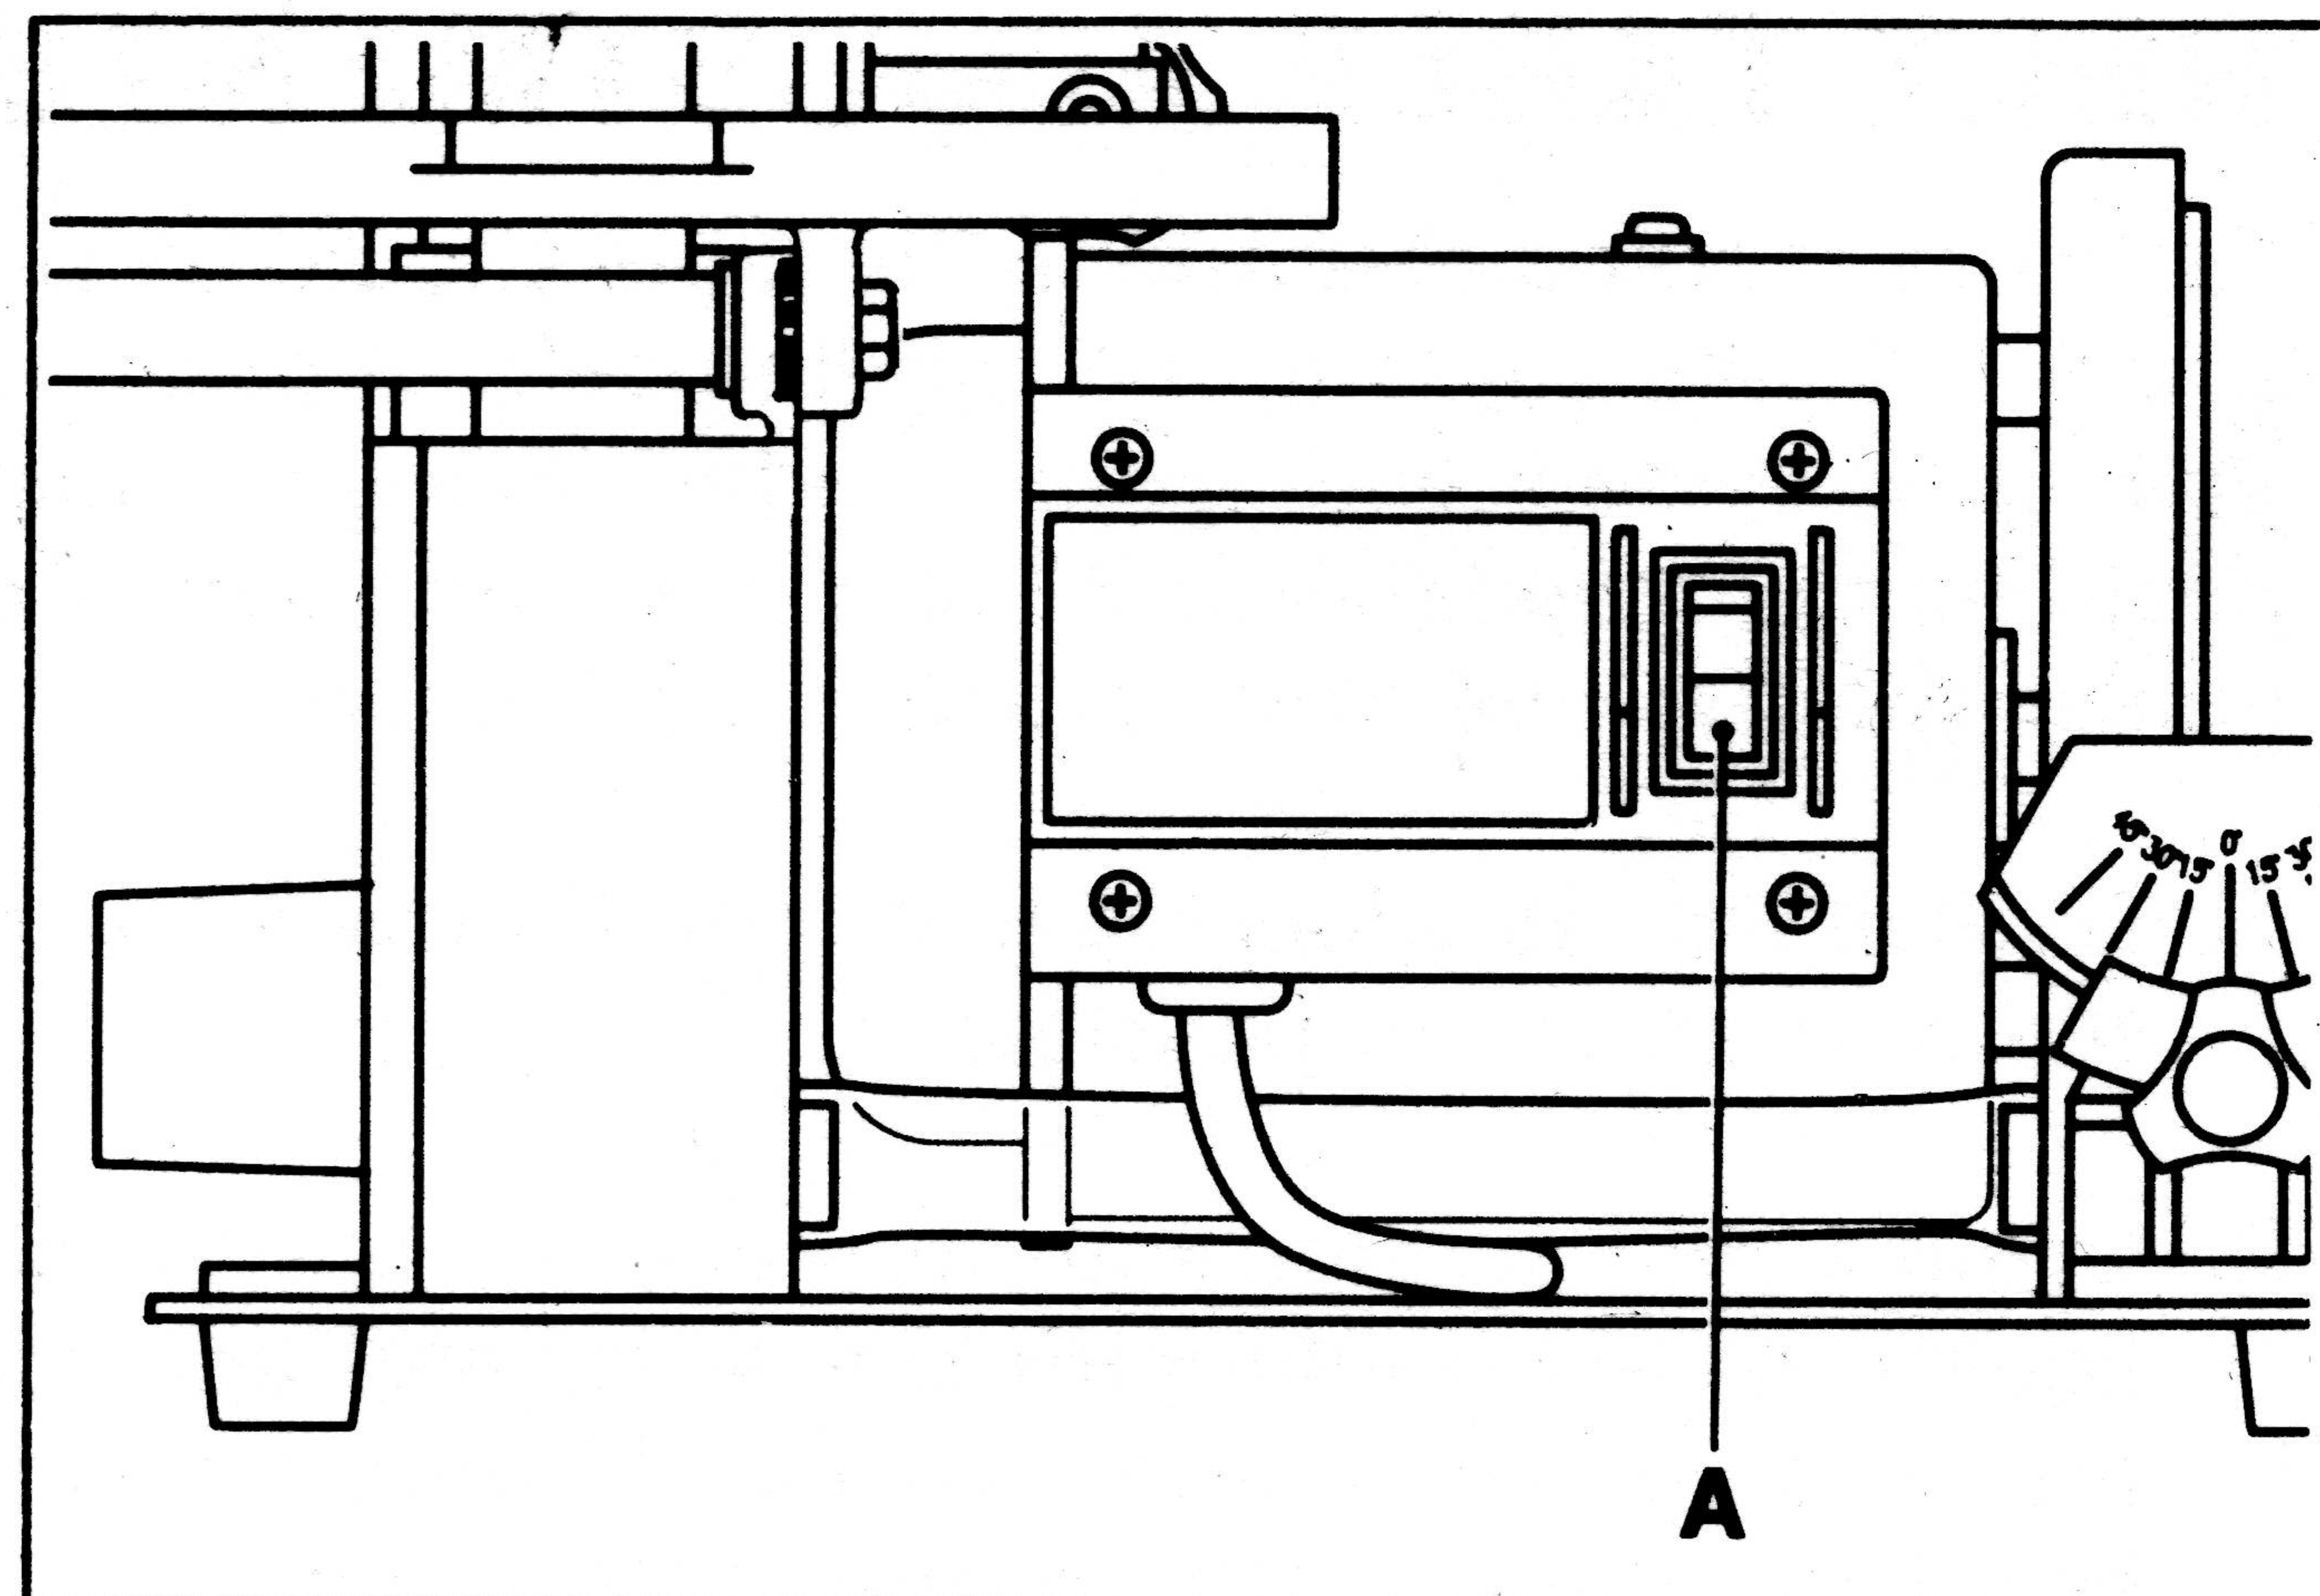

Fig. 9
The switch (A) Fig. 9, is located on the front of the switch box. To start the sander, push the upper half of switch to the "ON" position. To stop the sander push lower half switch to the switch to the "OFF" position.